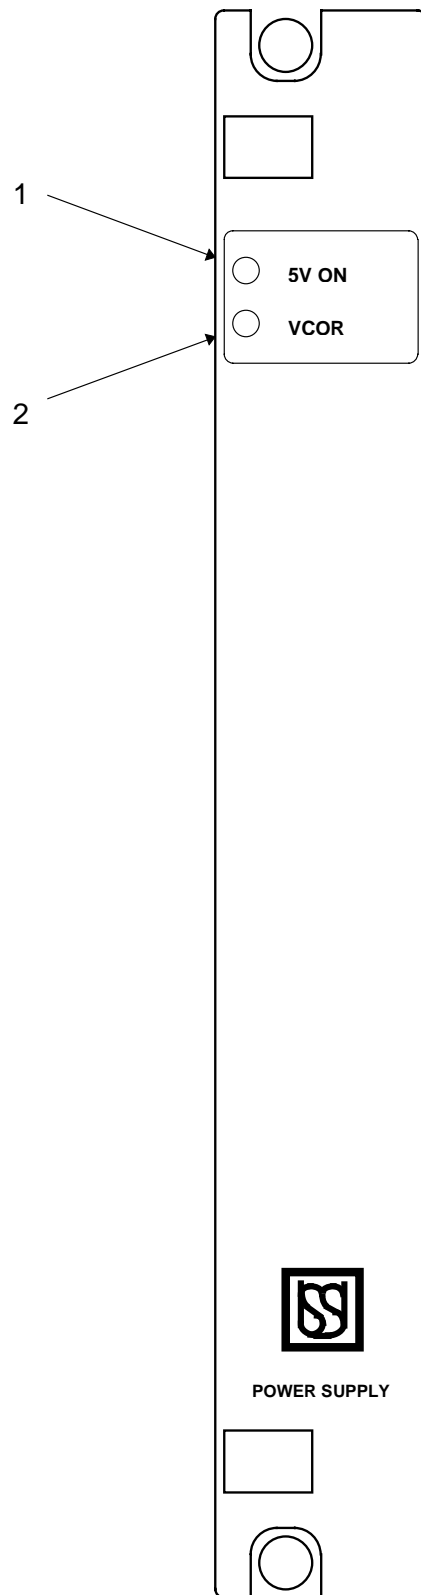

Figure 2-11. Power Supply PCB N16660301- Front Panel Layout
**2.16 POWER SUPPLY PRINTED CIRCUIT BOARD N16660301 (Figure 2-11)**